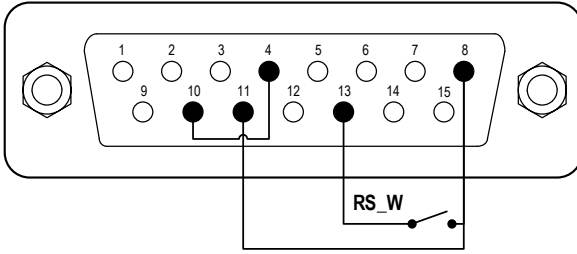
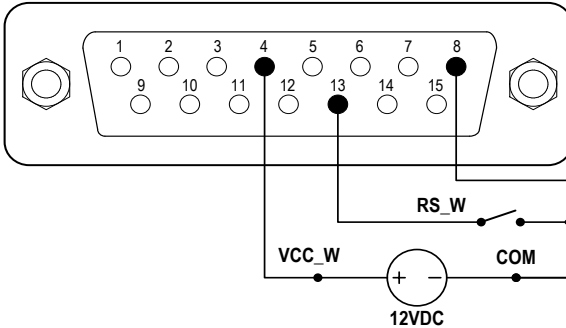

Figure 19. Logic Level 1 Control with Internal 12V Power Source
Figure 20. Logic Level 1 Control with External 12V Power Source
- 1) Switch the power off. Wire the DB15 connector as shown on Figure 19 or Figure 20, and connect it to the DB15 port on the rear of the pump.